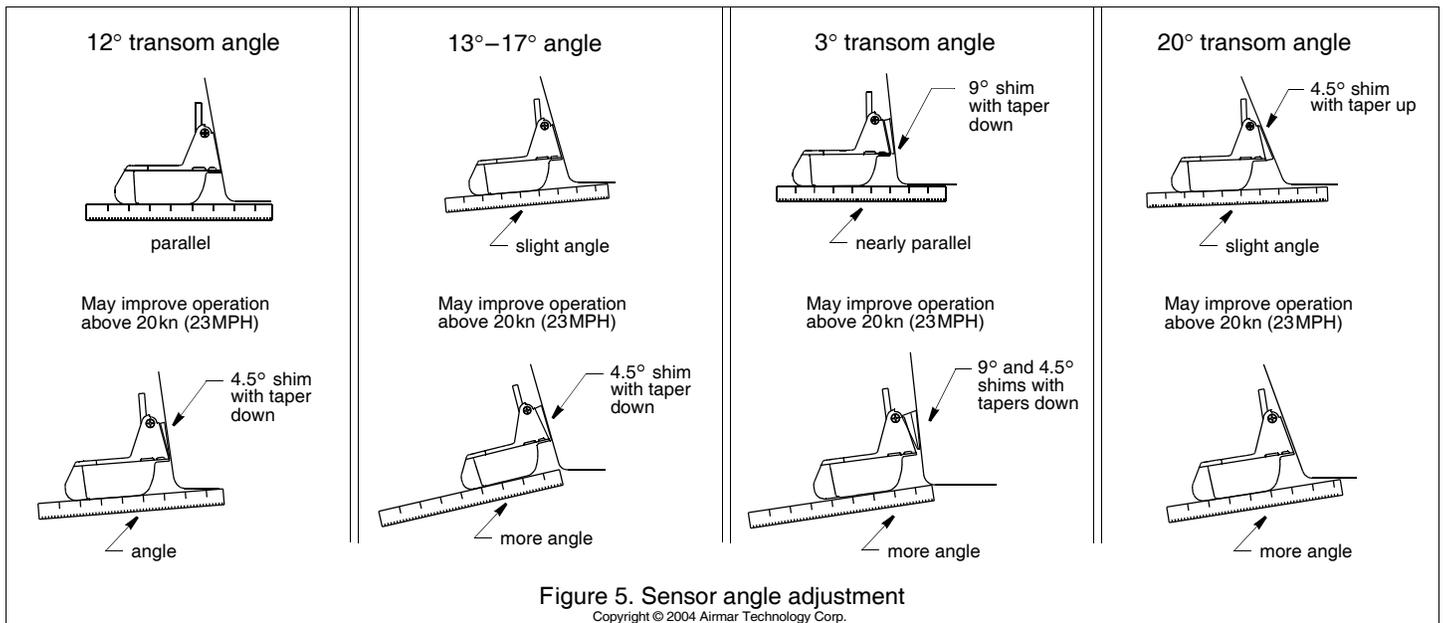

Figure 5. Sensor angle adjustment
(28MPH), install the bracket with the 4.5° shim, taper *down* (Figure 5).
- **Stepped transom and jet boats** (3° transom angle)—Use the 9° shim with the taper *down*. If your boat is capable of speeds above 20kn (28MPH), install the bracket with both the 9° and 4.5° shims, taper *down* (Figure 5). Install the 4.5° shim against the transom after shaving the interfering portion of the rails and lower bump. Place the 9° shim and bracket assembly on top.
- **Small aluminum and fiberglass boats** (20° transom angle)—Use the 9° shim with the taper *up* (Figure 5). If your boat is capable of speeds above 20kn (28MPH), install the bracket with the 4.5° shim, taper *up*.
2. Using a straight edge, sight the underside of the sensor relative to the underside of the hull (Figure 5). The trailing edge of the sensor should be 1–6mm (1/16–1/4") below the leading edge.
- a. Increase the sensor's angle in the water. Review "Compensating for Transom Angle: Shims" and Figure 5.